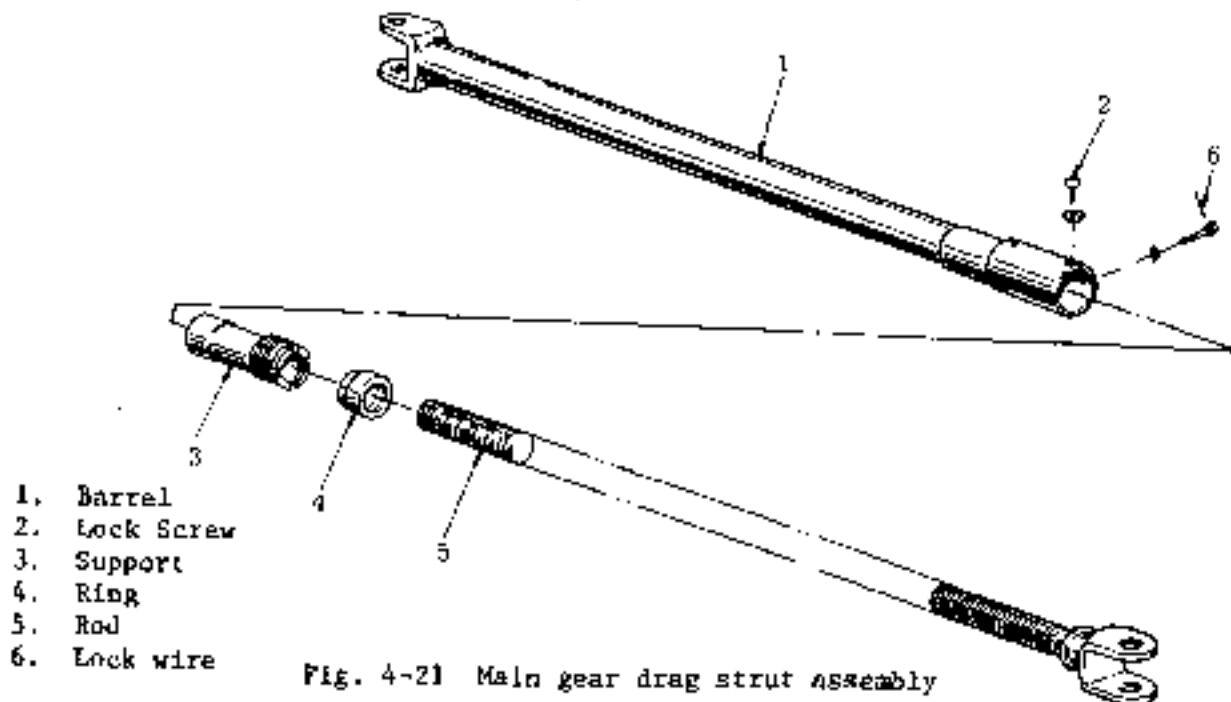

Fig. 4-21 Main gear drag strut assembly
3.5.2 DISASSEMBLY, INSPECTION AND REASSEMBLY OF MAIN LANDING GEAR DRAG STRUT (See Fig 4-21)